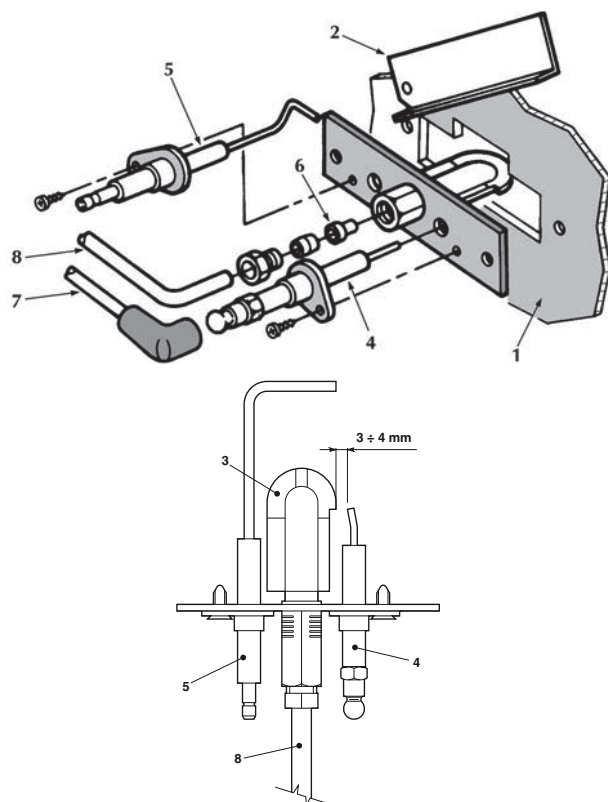

fig. 11 - Pilot burner
- The electrodes must be free of deposits and properly positioned (see fig. 11).
Make sure the electrodes are correctly positioned and free of deposits (see fig. 11).